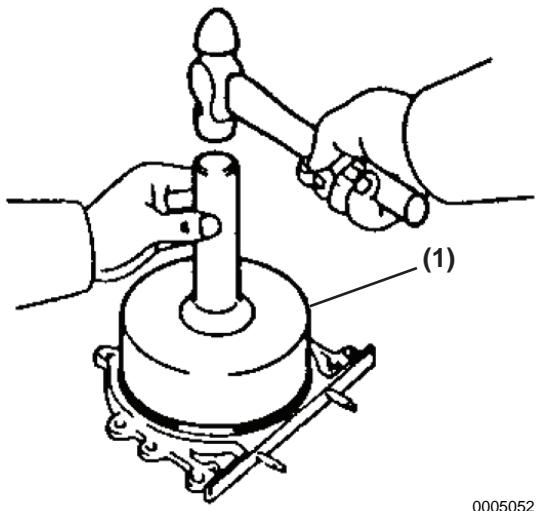

Figure 5-129
2. Using special tool P/N 119770-01130 (**Figure 5-129, (1)**), install a new oil seal until its surface is level with that of the rear oil seal case.